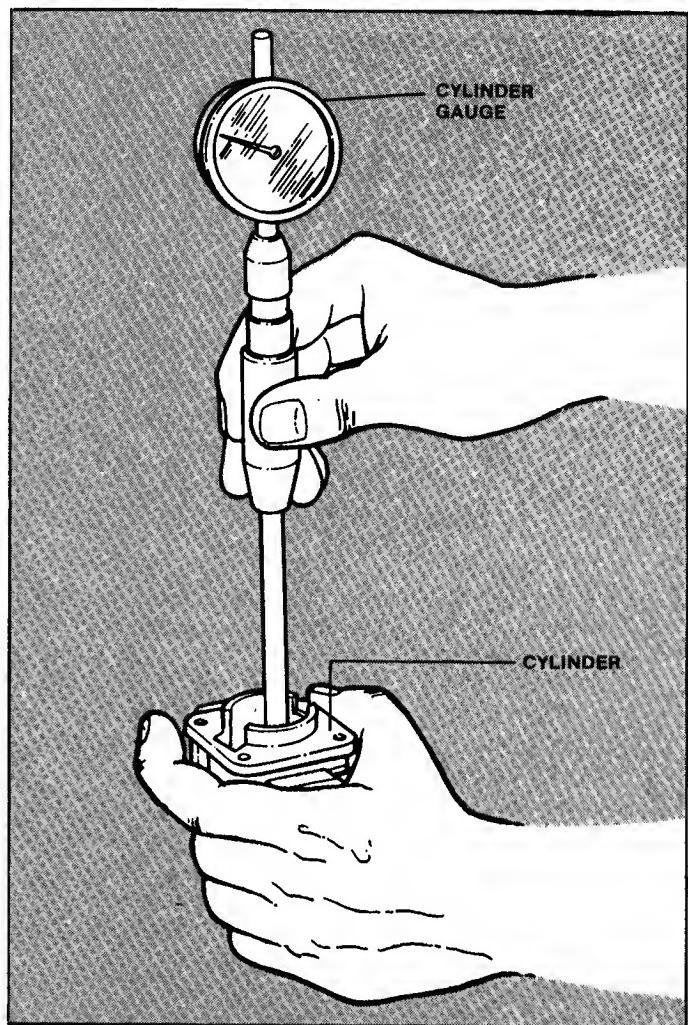

FIGURE 2.13
- D.** Measure the cylinder bore with a cylinder gauge as shown in Figure 2.13.